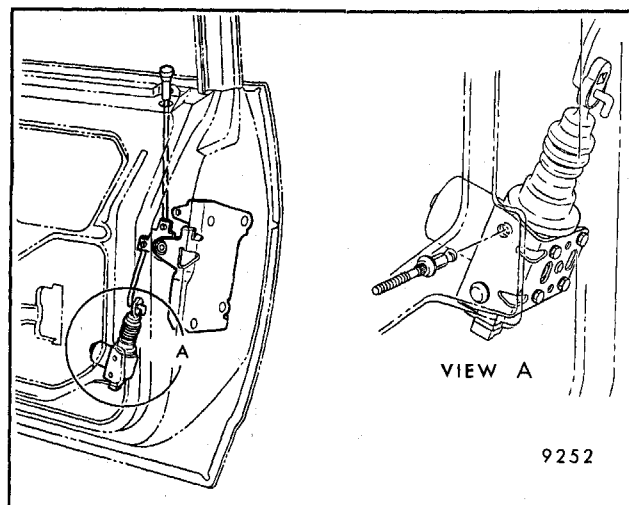

Fig. 5-59-Power Door Lock Actuator - Typical Installation
2. Punch out actuator attaching rivet center pins, then drill out rivets with 6 mm (1/4") drill bit. Disconnect rod and wire harness, then remove actuator through access hole (Fig. 5-59).